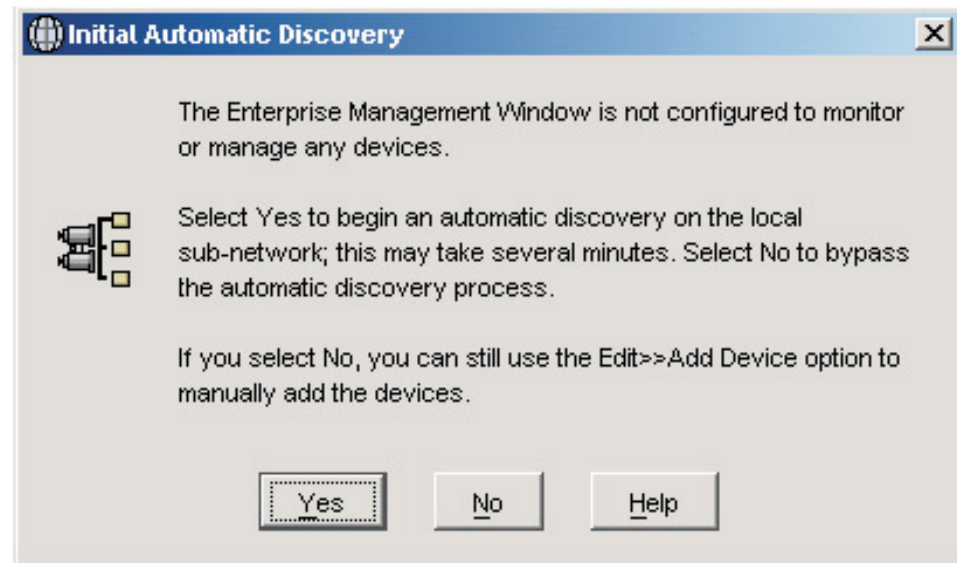

Figure 18. Confirm Initial Automatic Discovery window
2. Click **IBM DS4000 Storage Manager 9 Client**. The client software starts and displays the Enterprise Management window and the Confirm Initial Automatic Discovery window as illustrated in Figure 18.